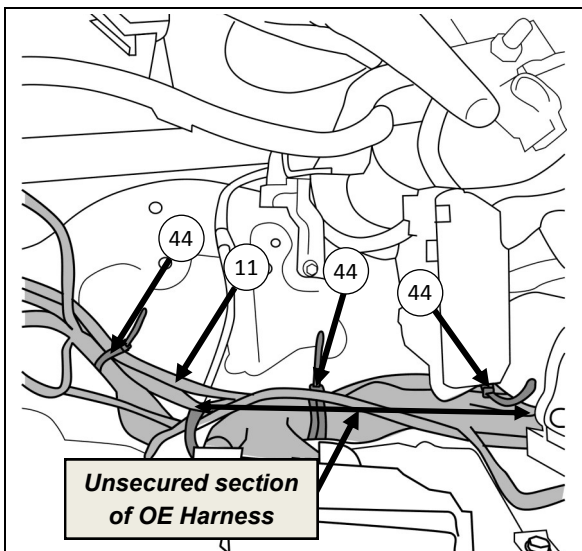

Figure 27: Route Winch Controller Harness
- Ensure that the PVC section of the Winch Controller Harness (Item 11) is placed underneath the unsecured OE harness as shown in Figure 27. Secure with 3X Cable Tie 200mm (Item 44) to OE wiring harness bundle.